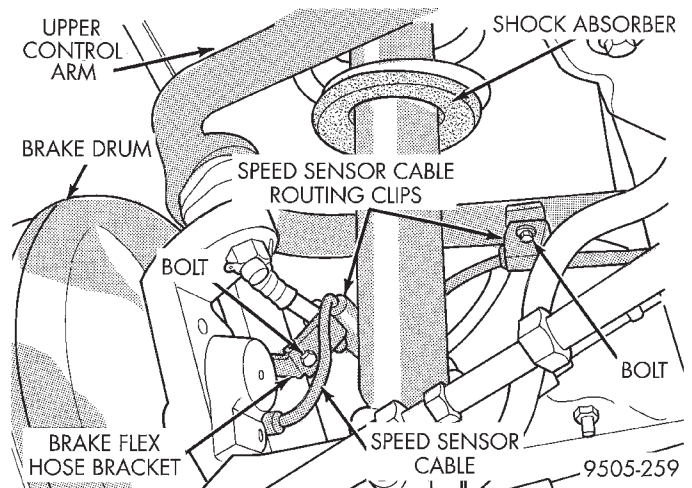

Fig. 47 Speed Sensor Cable Attachment To Rear Suspension
(5) Remove speed sensor routing clips from the rear upper control arm and brake flex hose routing bracket (Fig. 47).
(3) Install speed sensor cable routing clips (Fig. 47) on the brake flex hose bracket and the bracket on the upper control arm. Install and securely tighten the routing clip attaching bolts.